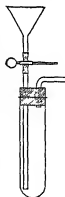
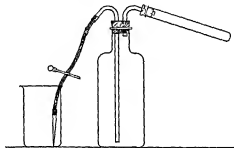

Fig 13
Fig 14
In the absence of a dropping-funnel, a substitute may be made by connecting a funnel with a straight tube by means of a rubber joint closed with a pinch clamp (Fig 13) Or, the aspirator (Fig 14) may be used here, the metal (half the above quantities), water, and a smaller
*a* Powder some potassium chlorate, and dry it on a watch-glass on the radiator, or high above a small Bunsen flame, or in a drying oven. Construct an aspirator (Fig 14), using the 1-liter bottle, and connect it with a hard glass test-tube. Fit a nozzle to the rubber tube and slip a pinch clamp over the outlet tube (syphon) in readiness for closing, at a later stage, the